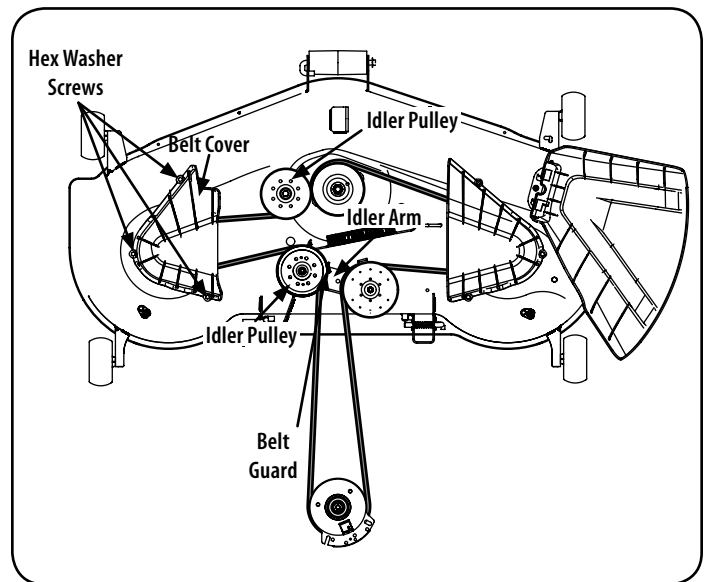
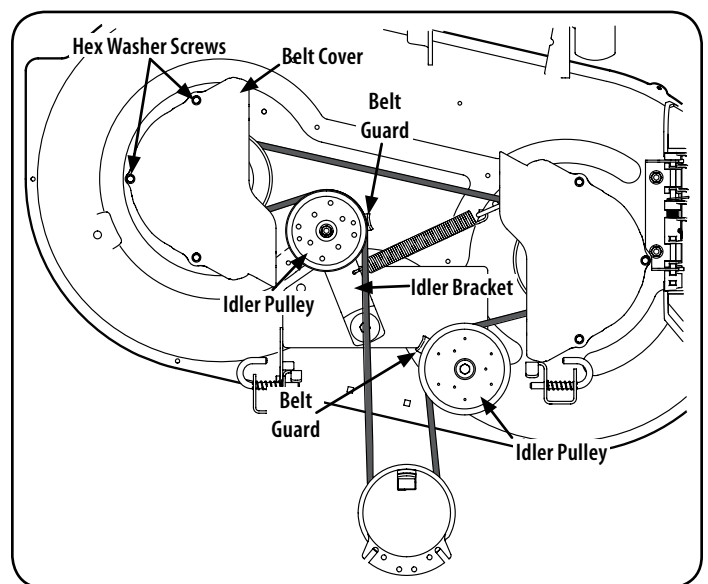

Figure 38
Figure 39
- Remove the hex washer screws securing the belt covers to the deck. See Figure 38 for 46" and 54" Decks and Figure 39 for 42" Decks.
- c. Install the new belt around the spindle pulleys as shown and reinstall the belt covers. See Figure 38.
- e. Route the belt as shown in Figure 38 and then reinstall the deck (refer to Deck Installation).
- c. Install the new belt around the spindle pulleys as shown and reinstall the belt covers. See Figure 39.
- e. Route the belt as shown in Figure 39 and then reinstall the deck (refer to Deck Installation).